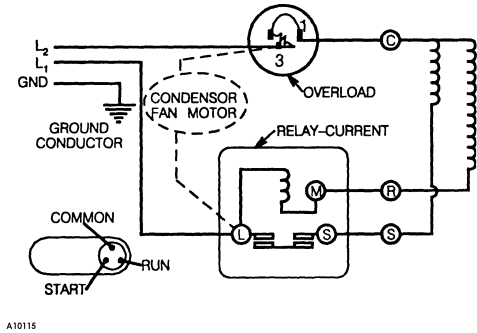

Figure 12. Compressor Schematic
- Bad windings (see **Figure 12**).
- C. Check relay. See **Figure 12** shown below. Unscrew lead terminals and remove relay from compressor. Keep relay upright.
- E. Check compressor windings. See **Figure 12** shown below.